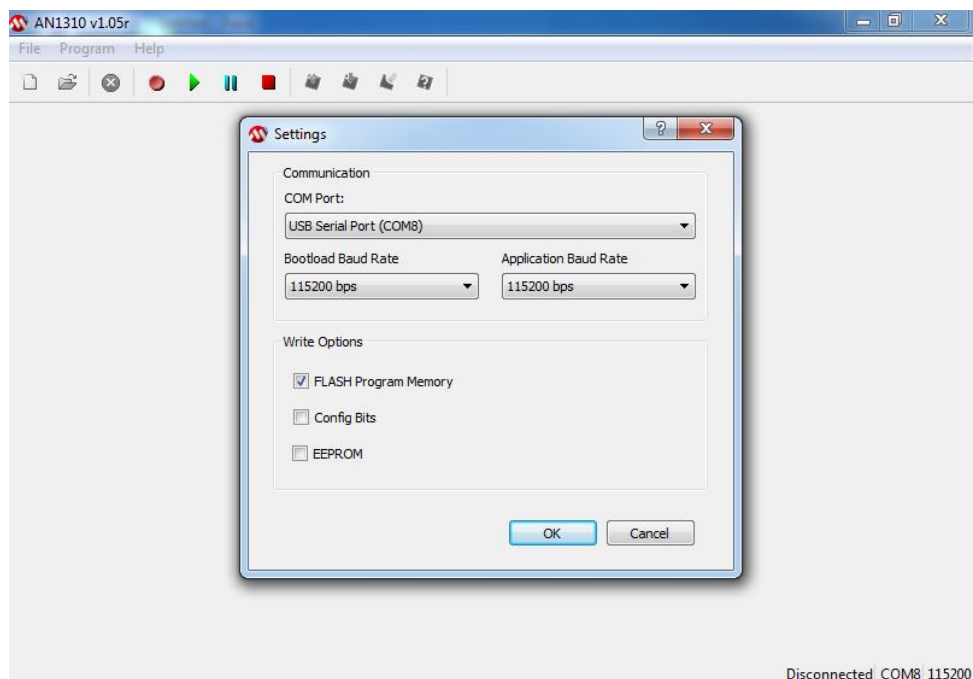
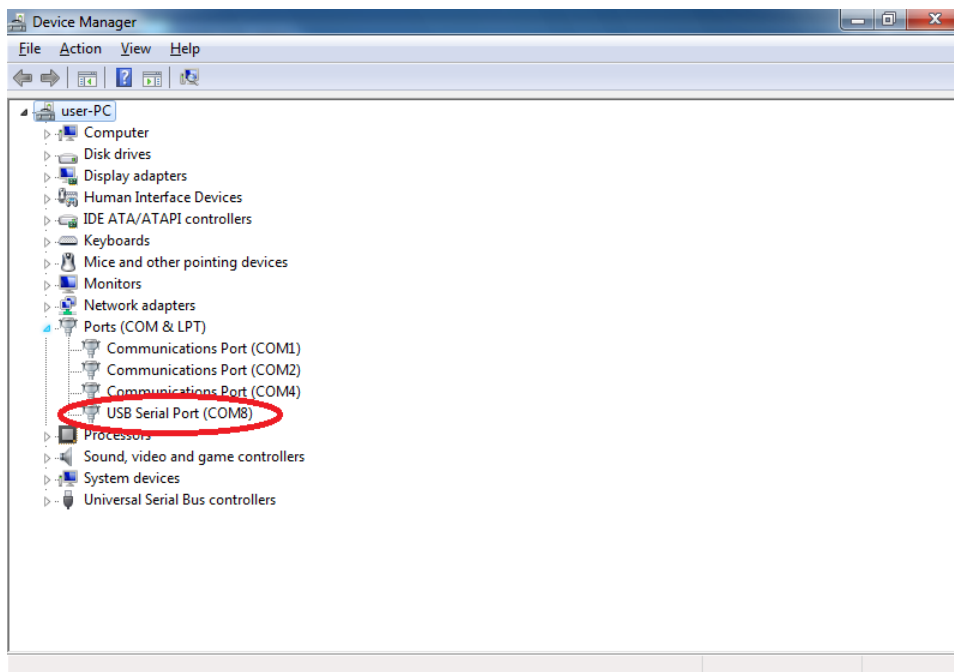

Figure 3.11
Figure 3.12
- On the Settings screen select a baud rate of 115200. The COM Port number will be identical to the Detector COM (refer to Figure 3.11), in this example 8. The allocated COM port may also be found in **Control Panel>Device Manager** (Figure 3.12). Make sure the **FLASH Program Memory** is checked and then click **OK**